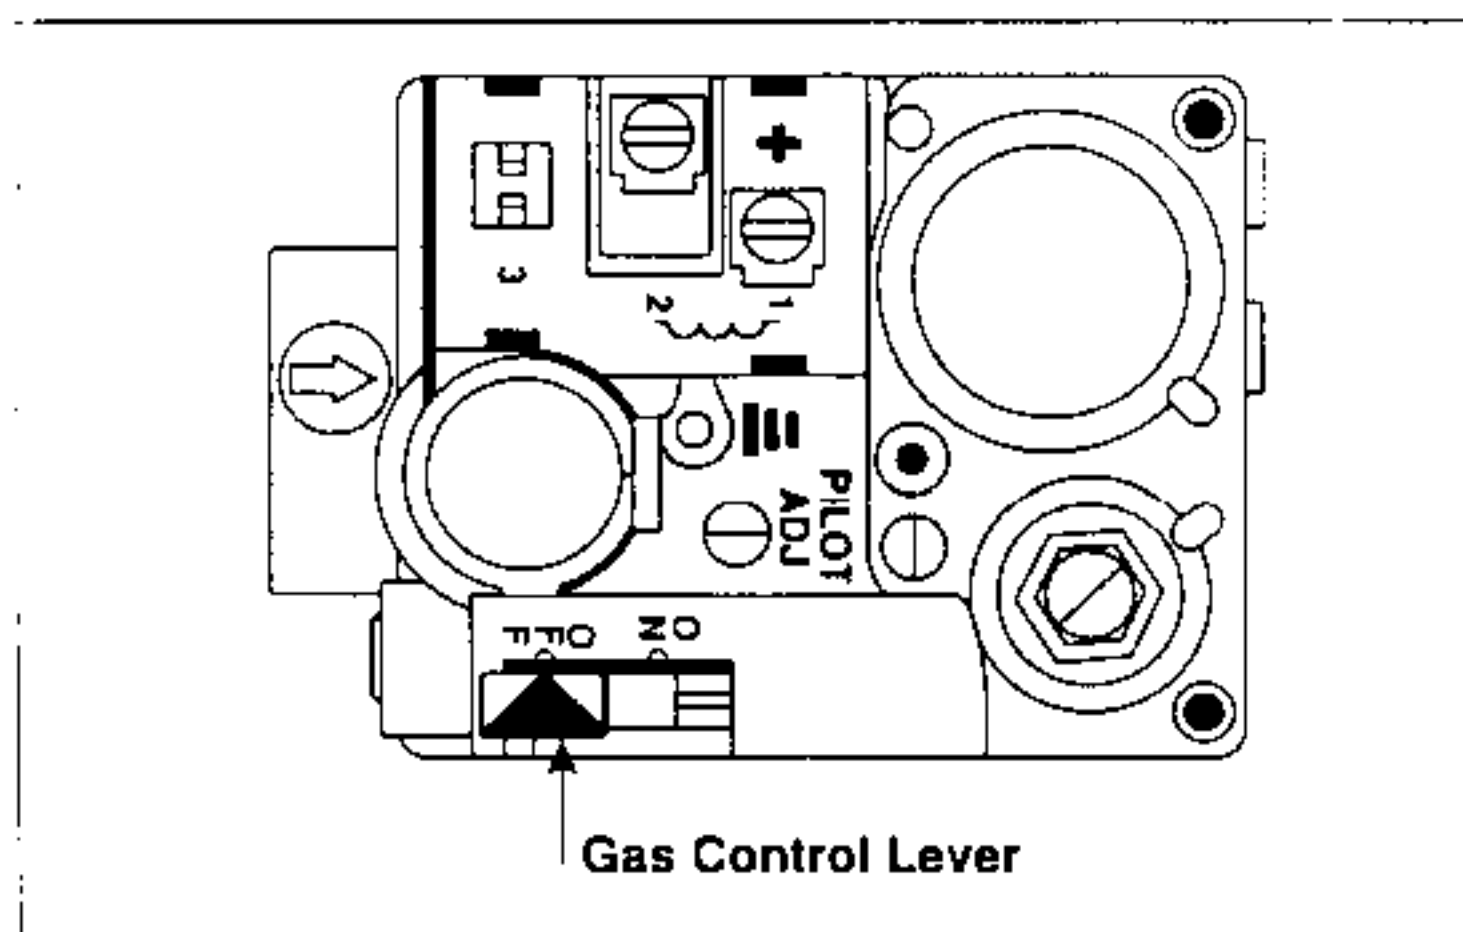

Figure 32. Direct Ignition Gas Valve
- Push in the gas control lever slightly and push left to "OFF." NOTE: The lever cannot be placed in the "OFF" position unless it is pushed in slightly. DO NOT FORCE (Figure 32).
- Wait ten (10) minutes to clear out any gas. If you smell gas, STOP! and follow step "d" in the SAFETY INFORMATION section. If you don't smell gas go to the next step.